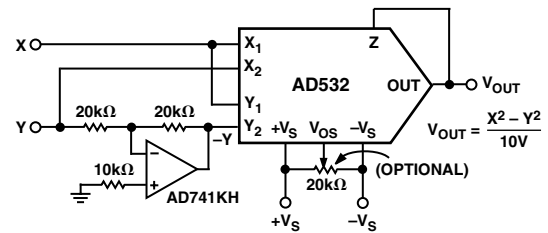

Figure 15. Differential of Squares Connection
The differential input capability of the AD532 allows for the algebraic solution of several interesting functions, such as the difference of squares,  $X^2 - Y^2/10$  V. As shown in Figure 15, the AD532 is configured in the square mode, with a simple unity gain inverter connected between one of the signal inputs (Y) and one of the inverting input terminals ( $-Y_{IN}$ ) of the multiplier. The inverter should use precision (0.1%) resistors or be otherwise trimmed for unity gain for best accuracy.